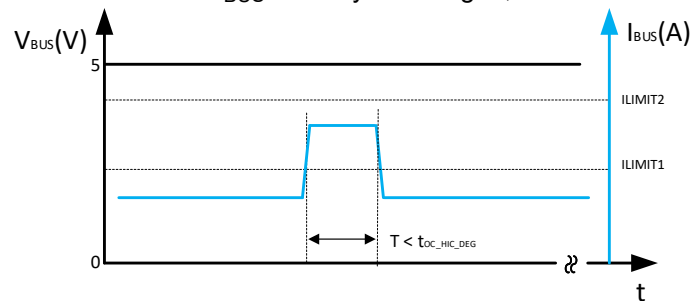

Figure 10-18. Two level Current Limit Methodology with ext MOSFET Case 1
- Case 1: If the load current I_{BUS} is in the range $I_{LIMIT2} > I_{BUS} > I_{LIMIT1}$, and the duration $< t_{OC_HIC_DEG}$, the external MOSFET will remain on and V_{BUS} will stay unchanged, as shown in Figure 10-18.